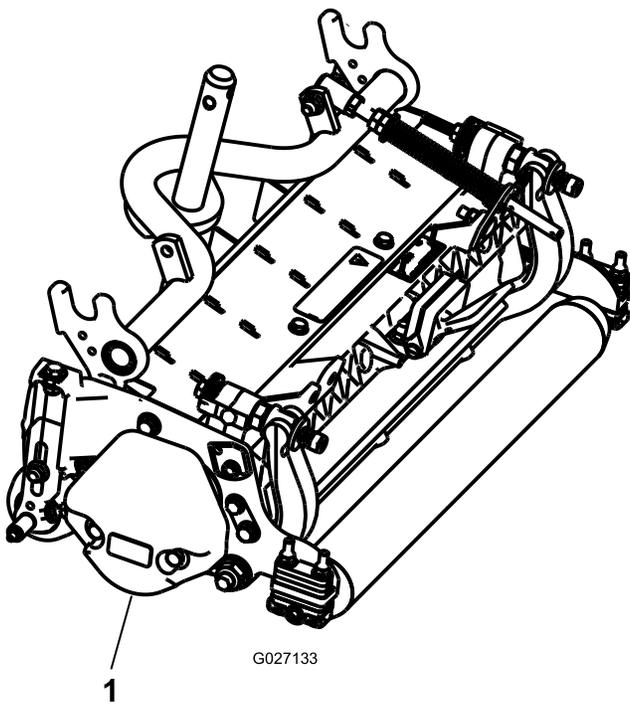

Figure 4
3. Make sure the counter weight (Figure 4) is installed to the proper end of the cutting unit as described in the counter weight kit *Installation Instructions*.